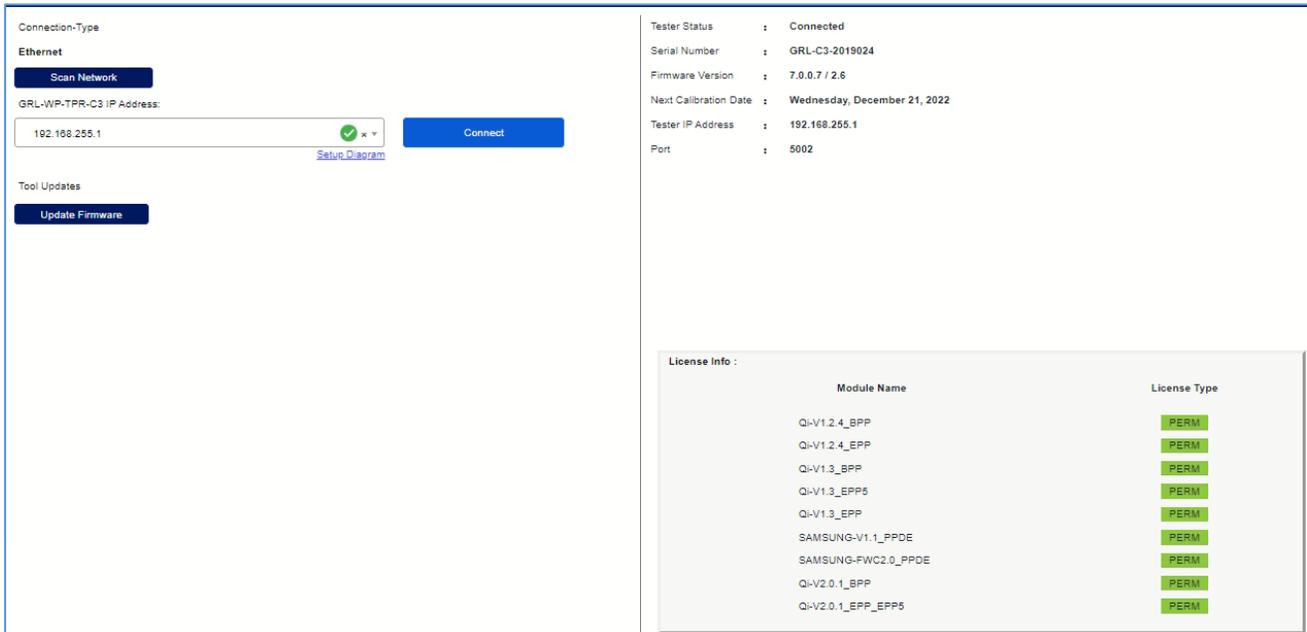

FIGURE 7.8: UPDATE GRL-C3 FIRMWARE– #5
- The GRL-C3 tester hardware and Browser App should now be connected and ready for use with updated firmware (Figure 7.8 below).